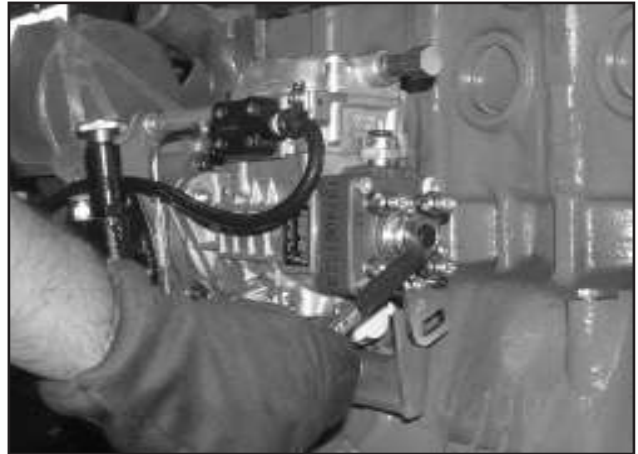

Fig. 25
- Remove the dummy plug from the distributor head. **Fig. 25**